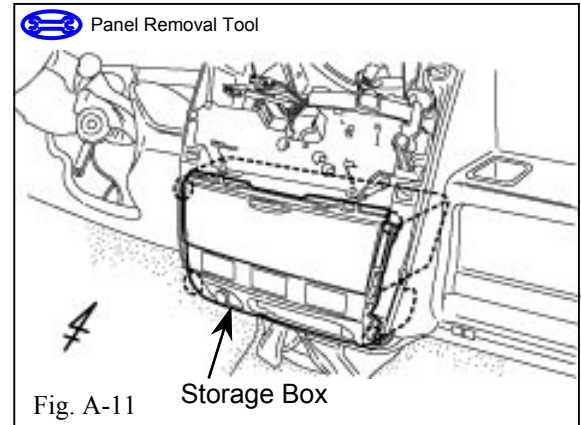

Fig. A-11
11. Remove the center storage box. (Fig. A-11)